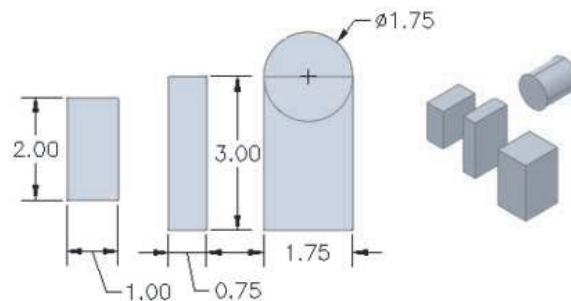

Figure 2-35
6. Create the solid primitives shown Figure 2-35 with a depth of 2.